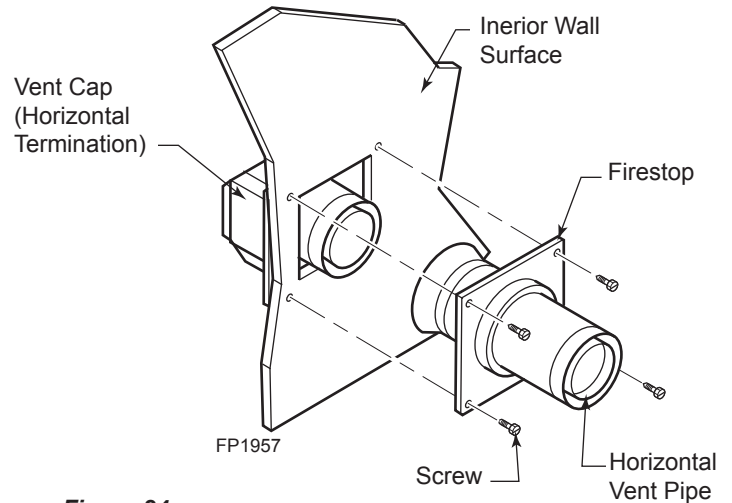

**Figure 24 -
6. Slide the stop over the vent pipe before connecting the horizontal run to the vent cap. *Figure 24*
8. Slide the wall thimble against the interior wall surface and attach with screws. *Figure 24*
- The maximum number of 45° elbows permitted per side wall installation is two (2). These elbows can be installed in either the vertical or horizontal run.
- The maximum number of elbow degrees in a system is 270°. Figure 24